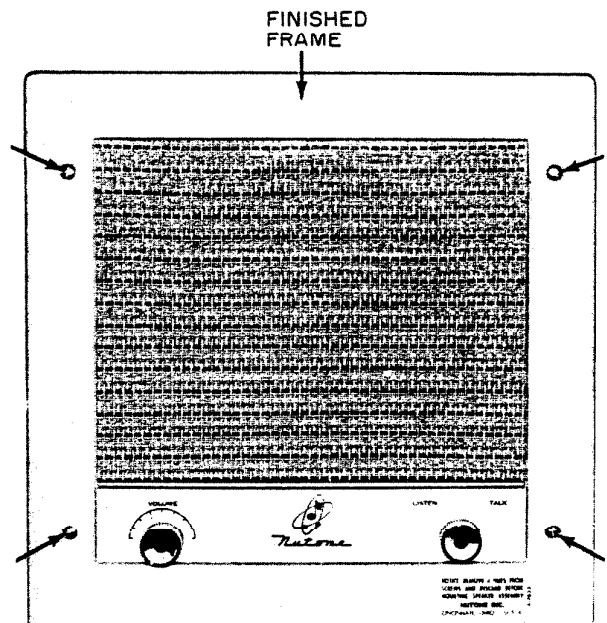

Fig. 12. Model 2020 inside remote speaker station with finished frame attached.
2. Model 2020 8" speaker (Fig. 12)
4. Remove speaker unit from studs on rough-in frame. Align holes in the finished frame and speaker plate with the holes in the rough-in frame. Fasten speaker unit in place with four mounting screws previously removed under Step 1 above and shown by arrows in Fig. 12.